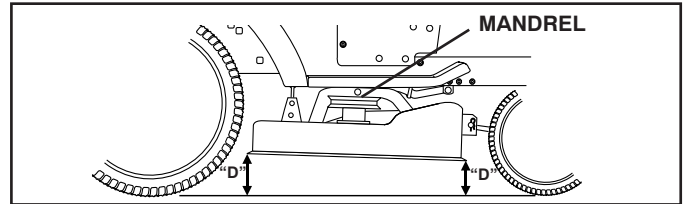

Fig. 17
**FRONT-TO-BACK ADJUSTMENT** (See Figs. 17 and 18)